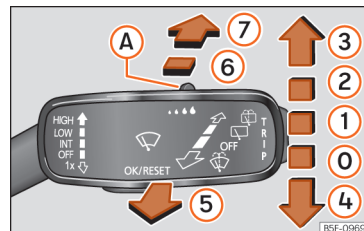

Fig. 112 Operating the windscreen wiper and rear wiper.
| 1 | INT | Wiper intervals. Use control Fig. 112 (A) to set the interval (vehicles without rain sensor), or the sensitivity of the rain sensor. |